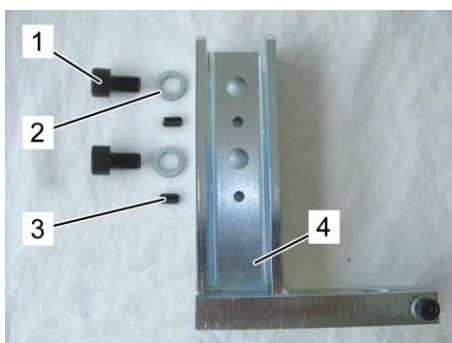

Fig. 32: Single profile type sensor bracket
3. Tighten the profile type sensor bracket (Fig. 32/4) for one sensor (here bracket for cylinder no. 1 left hand side) with the bolts M8 or M10 (Fig. 32/1) and Nord-Lock® discs (Fig. 32/2) under the crossheads of the first and the last cylinder.